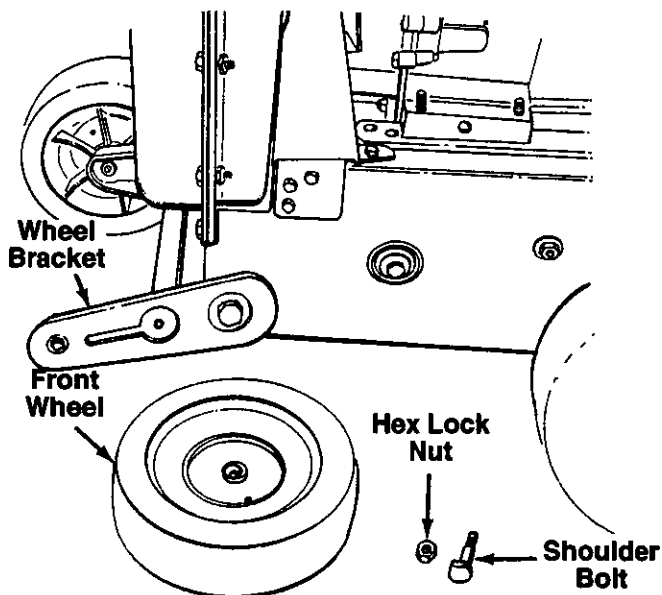

FIGURE 2.
1. Remove the hex lock nuts and shoulder bolts from the front of the wheel brackets. See figure 2.